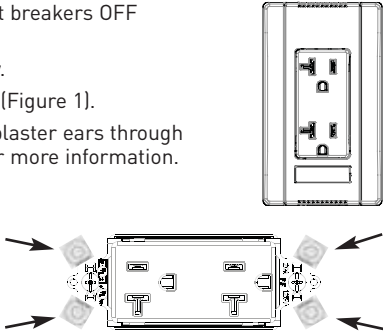
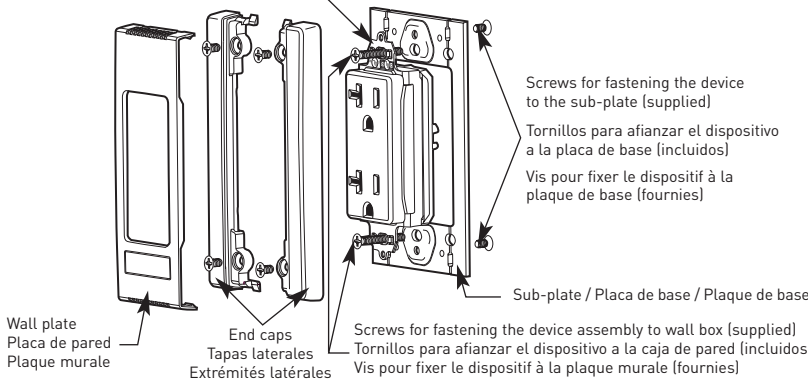

Figure 1 / Figura 1 / Figure 1
Figure 2 / Figura 2 / Figure 2
3. Remove the plaster ears from the device (see Figure 1) and attach the device to the sub-plate, with the screws provided. (See Figure 2).
- Remove plaster ears from the device. Break off with pliers (Figure 1).
- Attach the device to the sub-plate with the two screws provided (see Figure 2).
- Wire the device per the manufacturers instructions and install the assembly in a single gang wall box with the screws provided (see Figure 2).